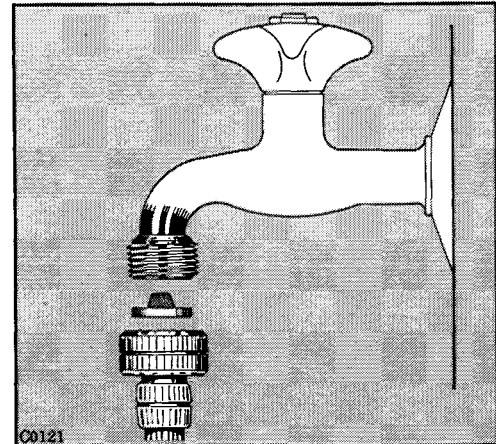

fig. 6
**After setting the inlet hoses as desired, be sure to tighten their ring nuts again to prevent leakages (fig. 6).**